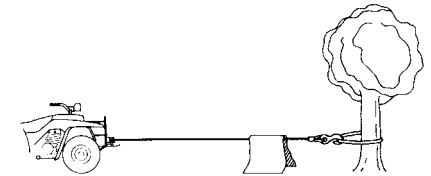

Figure 5
10. It is a good idea to lay a heavy blanket or jacket over the wire rope near the hook end when pulling heavy loads (Figure 5). If a wire rope failure should occur, the cloth will act as a damper and help prevent the rope from whipping.